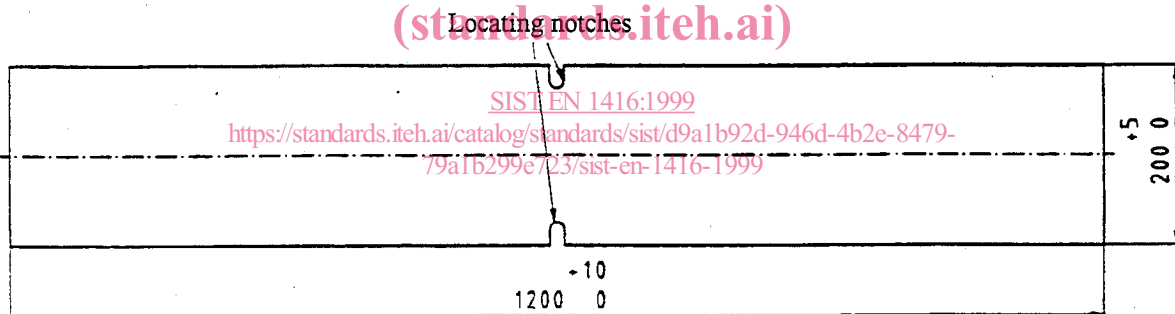

Figure 2 : Transparent plastics sheet
5.2 A polycarbonate transparent plastic sheet measuring (1200^{+10}_0) mm x (200^{+5}_0) mm of thickness $(2 \pm 0,1)$ mm and of density $1,20 \text{ kg/m}^3$ with locating notches (see figure 2).